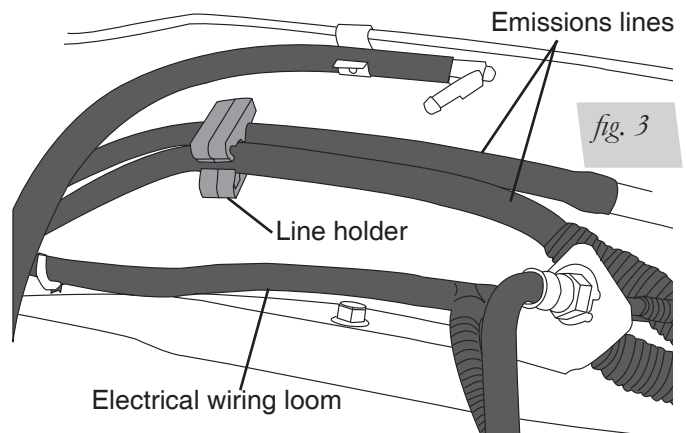

fig. 3
If your model truck has emission lines running along the inside of the frame rail (fig. 3), it will be necessary to relocate those lines as follows:
- *Carefully push the line holder out of the frame above the axle. Try to minimize damage because it will be reused later. It may also be helpful to remove any holders forward or rearward of the axle to aid in positioning the lines once the upper bracket has been installed (fig. 3) .*